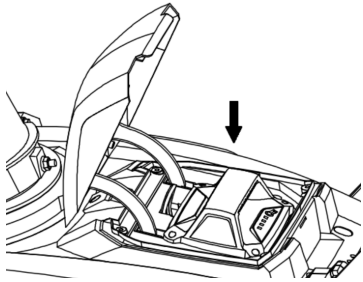

Fig.6
1. Open the battery compartment cover and slide the battery vertical down as Fig 6 shows.